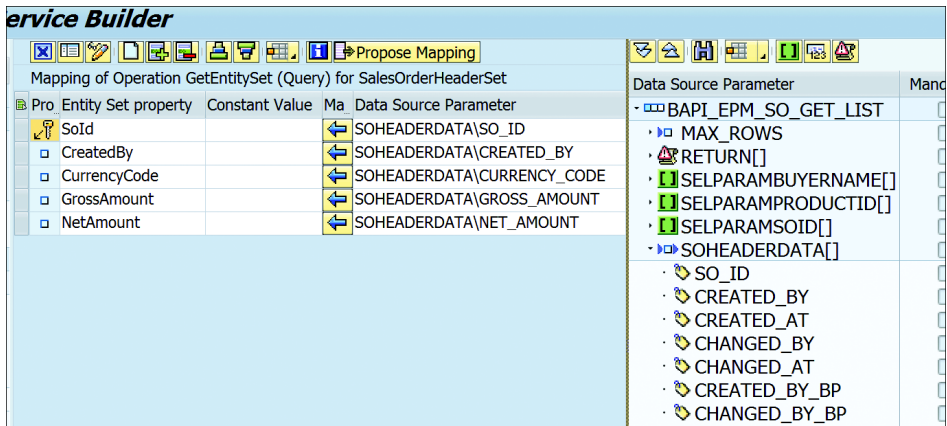

Figure 19.118 Mapping Data Source Parameters
3. The data source parameters will be displayed on the right, as shown in Figure 19.118. You can click the PROPOSE MAPPING button to have the system automatically propose the mapping, or manually drag and drop the fields from the right window to the DATA SOURCE PARAMETER area on the left.